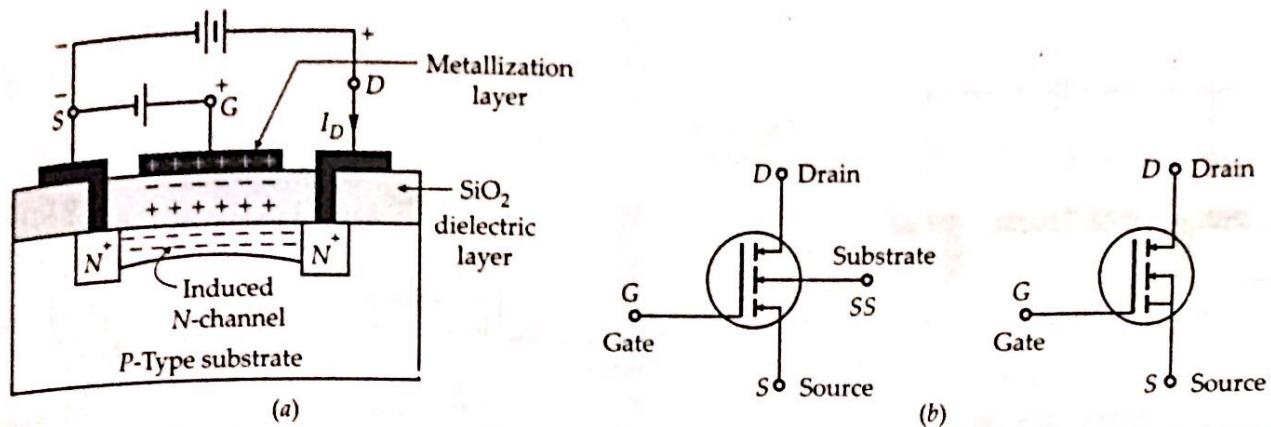

Figure 5.62 (a) Structure of enhancement MOSFET (b) circuit symbols.
**Construction.** The structure of *N*-channel enhancement type is provided in Fig. 5.62(a). Its circuit symbol is shown in Fig. 5.62(b). MOSFETs do not have continuous channel for conduction, which is shown by broken line in the circuit symbol.